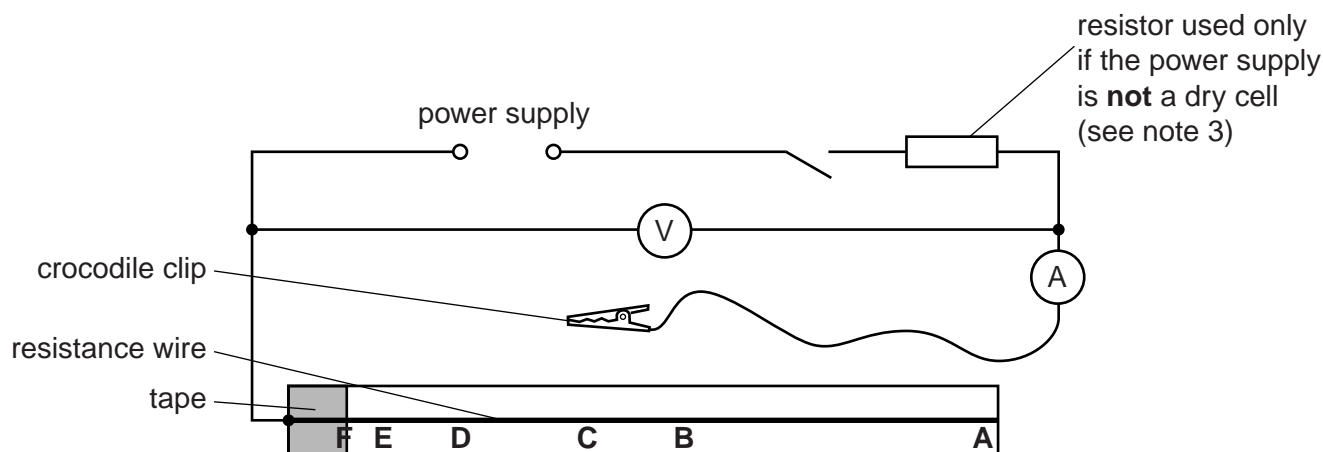

Fig. 3.1
- (vii) Sufficient leads to set up the circuit shown in Fig. 3.1.
1. The circuit is to be set up for candidates as shown in Fig. 3.1. The crocodile clip should **not** be connected to the resistance wire.
3. If the power supply is a power pack or lead acid cell, rather than a dry cell, a $1\ \Omega$, 3W resistor must be connected in series with the power supply, as shown in Fig. 3.1.